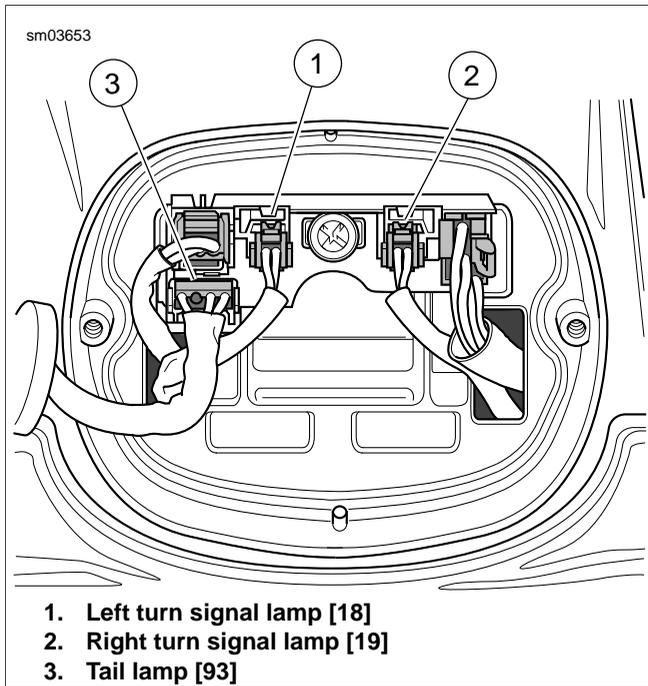

Figure 8-53. Release Tail Lamp Socket
- Disconnect tail lamp connector [93], 4-place Multilock. Set tail lamp assembly aside. See Figure 8-53.
into pin housing until it "clicks." To avoid stressing wires, verify that tail lamp conduit is positioned on the outboard side of the rear fender tip lamp and left turn signal lamp conduit as shown Figure 8-53.